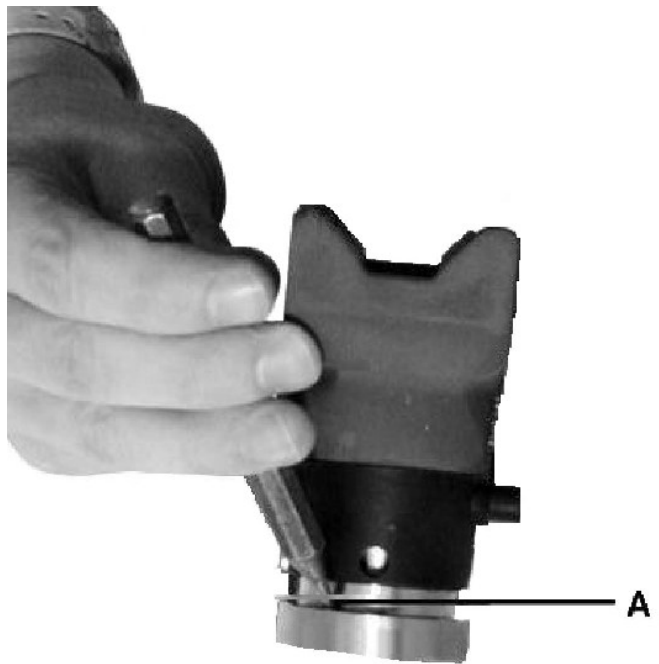

Figure 25
2. Remove the Bearing by tapping it with a Drive Punch alternatively through each one of the holes in the Top Pin Housing (Fig. 25-A)